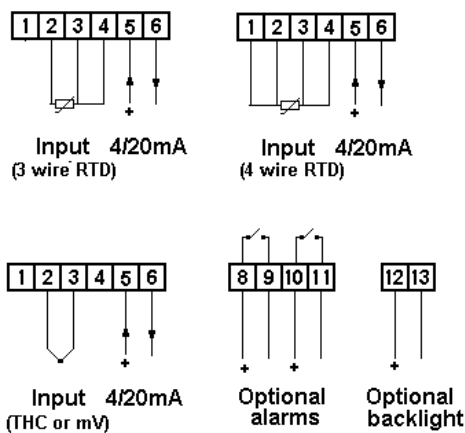

Fig 6b Instrument wiring
- Connect the panel wiring to the rear terminal block(s) as shown in Fig 6b.